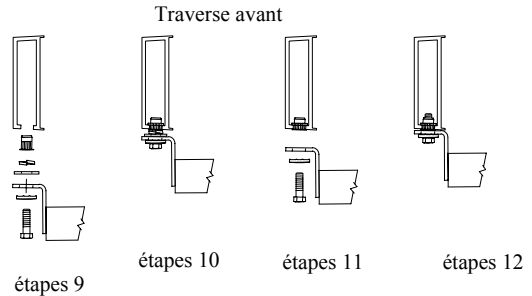

FIGURE 6.
10. TO INSTALL RIVET NUT IN CROSSMEMBER, HOLD HITCH TIGHT AGAINST CROSSMEMBER WHILE TIGHTENING THE 1/2-13 HEX BOLT TO 45 LB.-FT. (THIS WILL SEAT THE RIVET NUT - SEE FIGURE 6)
10. POUR INSTALLER UN ÉCROU DE RIVET SUR LA TRAVERSE, PRESSER FERMEMENT L'ATTELAGE CONTRE LA TRAVERSE TOUT EN SERRANT LE BOULON HEX. 1/2-13 AU COUPLE DE 45 LB-PI. (L'ÉCROU DE RIVET SERA AINSI ENGAGÉ À FOND - VOIR FIGURE 6)